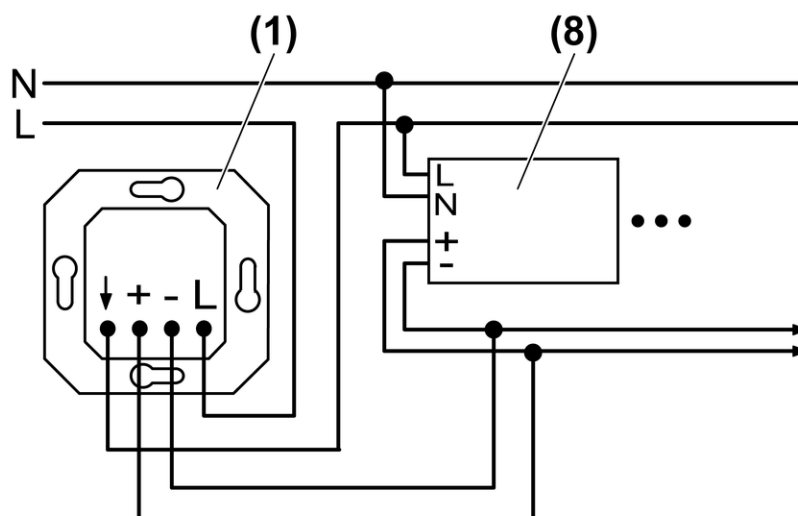

Figure 2: Connection diagram for potentiometer with switching function
- (1) Electronic potentiometer
- (8) Lamp operating device with 1-10 interface, electronic ballast
- (9) Extension, installation button
- Connect electronic potentiometer with switching function according to connection diagram (Figure 2) or .